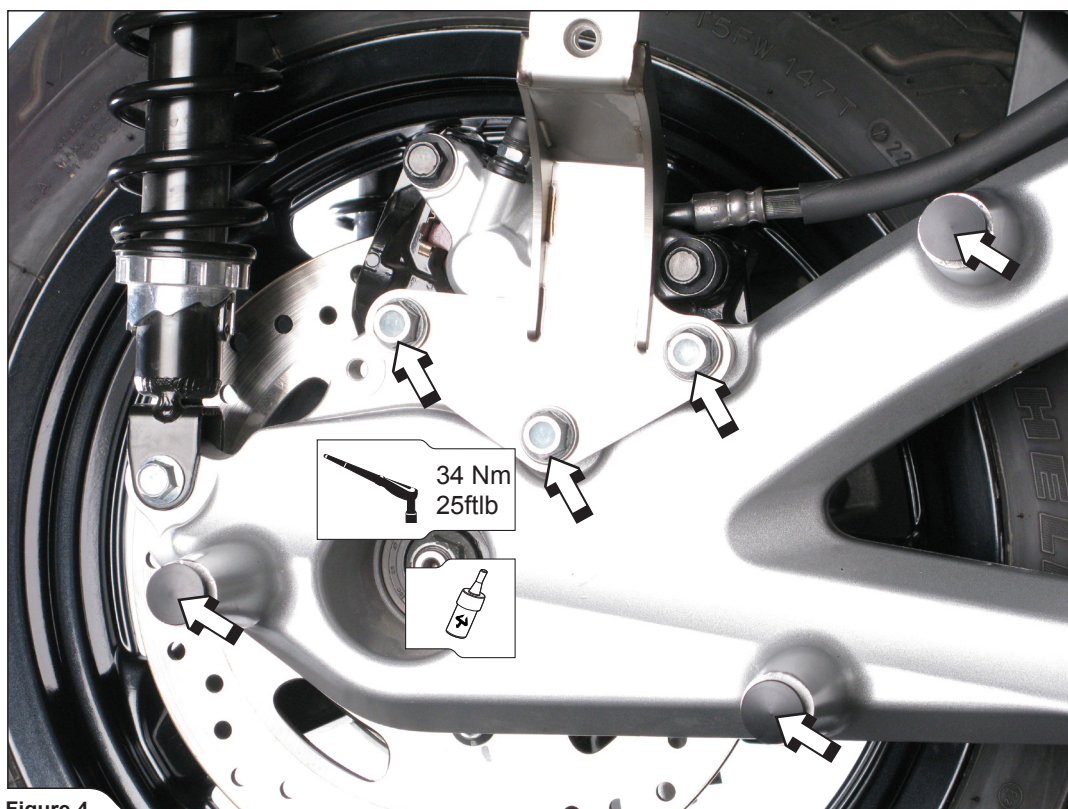

Figure 4
1. For X-MAX 250 / 250 ABS / 125 ABS / X-CITY 250 only: install the Akrapovič muffler bracket onto the brake caliper as shown, using Akrapovič bolts and washers. Tighten the bolts to a specified torque. Insert the Akrapovič PVC plugs into the stock muffler's mounting holes, use rubber mallet to tap the plugs into place (Figure 4).